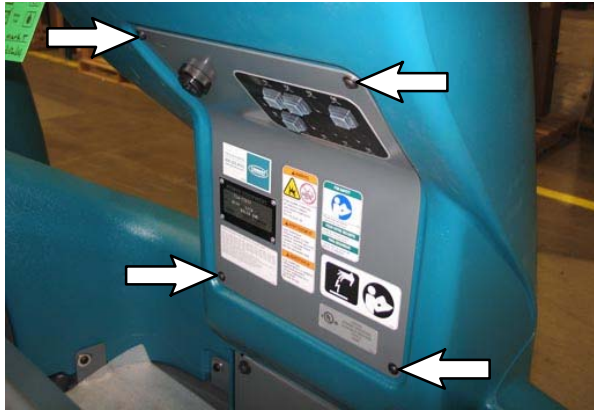

FIG. 5
15. Remove the hardware holding the electrical panel to the machine. Set the hardware aside. (Fig. 5)